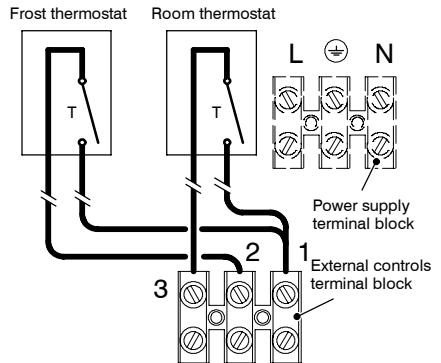

Fig. 6.16
- 10 Connect the frost thermostat between terminals 1 and 2 as shown in Fig. 6.16. **Do not connect live wires to terminals to which the room thermostat must be connected.**